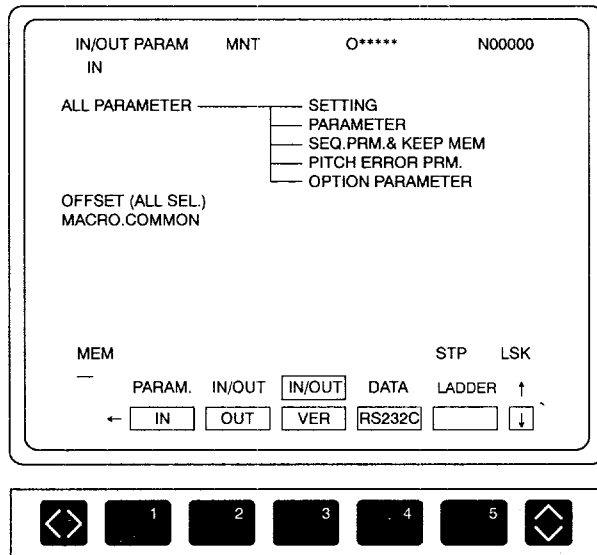

Fig. 8.6 Parameter Input Screen
(1) Selection and Operation of the Function
- ① Press the appropriate function soft-key corresponding to the required operation. The screen is displayed corresponding to the pressed function soft-key. Fig. 8.6 shows the parameter input screen.
- ② Move the cursor to the parameter which should be input, output, or verified and press the [WR] key. The message "INPUT (OUTPUT/VERIFY) OK?" is displayed.